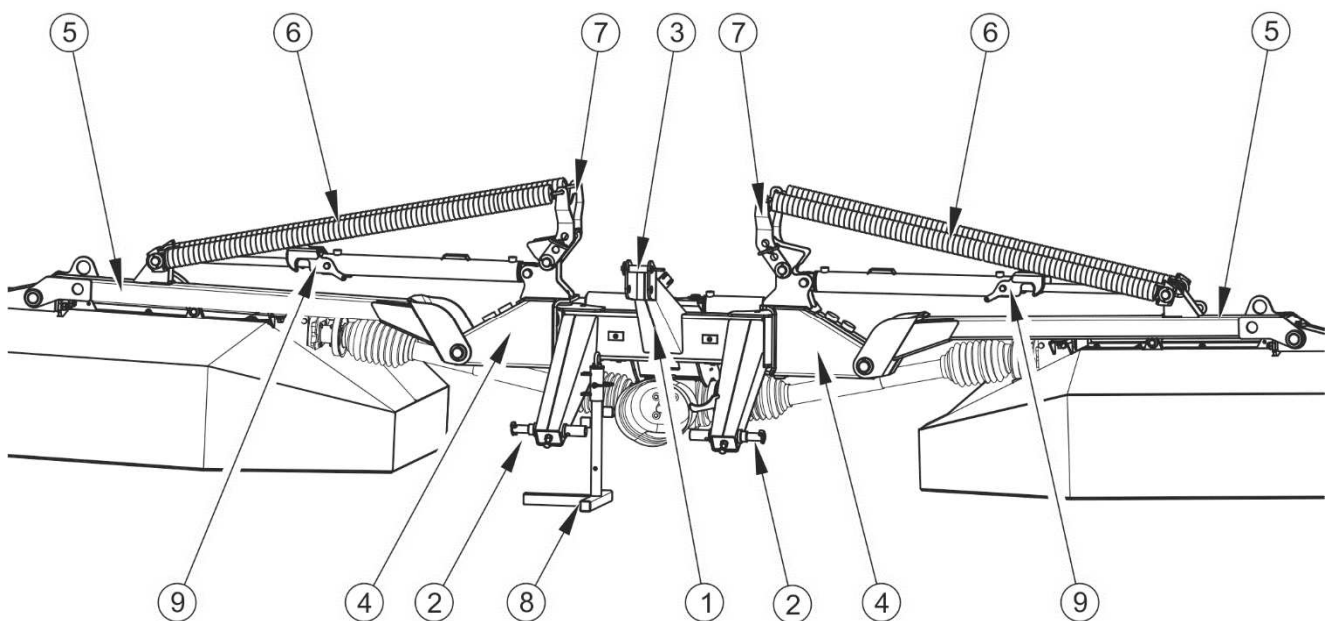

FIG. 3.2 Linkage
(1) linkage frame, (2) cutting unit, (3) main frame, (4) side guard, (5) central transmission, (6) intersecting axis gear, (7) PTO shaft for connection with tractor, (8) interlock cable, (9) hydraulic system, (10) swath guide (PDD830), (11) support leg, (12) swath conditioner (PDD830C), (13) swath guide (PDD830C)
The main element of the PDD830 / PDD830C mower linkage (figure 3.2) is the linkage frame (1), equipped with two lower pins (2) and upper pin (3) for connection to the tractor's three point linkage. Moving arm (4) allow the cutting unit to swing backwards at the moment of collision with obstacle. Lifting arms (5) raise the cutting unit. To ensure correct pressure of cutter bar on the surface, the machine is equipped with strong stay springs (6). The spring tension is adjusted by changing the position of the spring catch (7). The spring tension is adjusted by changing the position of the spring catch (7).